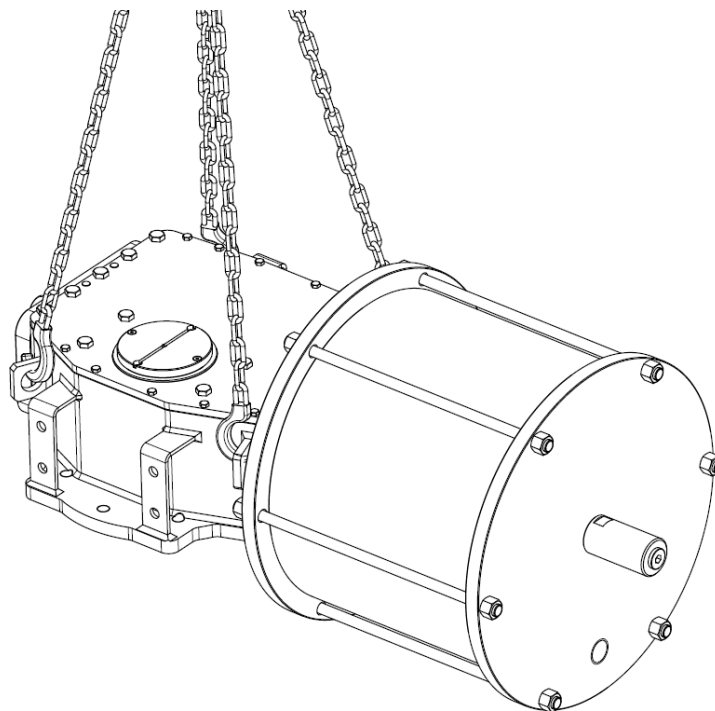

Fig. 2 – Lifting points for RTQ actuator series
Warning: Lift the actuator as shown in Fig.2.
- Conditions in which the machinery meets the requirement of stability during use, transportation, assembly, dismantling when out of service, testing or foreseeable breakdowns, are shown in Fig.2.